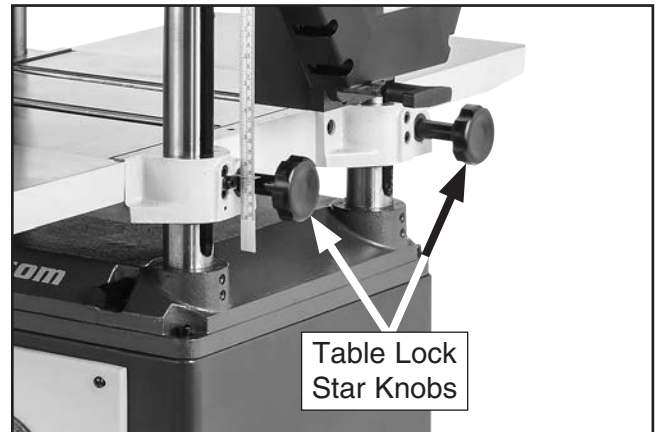

Figure 16. Table lock star knobs installed.
3. **G0453W & G0453ZW Only:** Remove one pre-installed hex nut from each table locking rod, then install table lock star knobs on locking rods (see **Figure 16**).